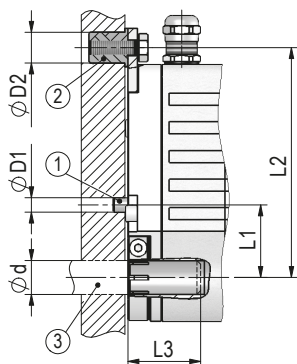
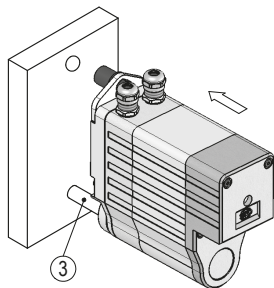
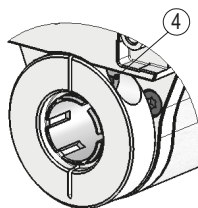
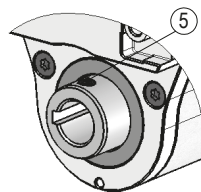

Fig. 1: Mounting dimensions
Fig. 2: Mounting
Fig. 3: Fastening torque for screws
Fig. 4: Shaft with feather key groove
- ▶ Ensure a low shaft and angle offset between shaft and accommodation bore by applying appropriate manufacturing methods (see Fig. 1 + Tab. 2).
#### Preparing mounting (Fig. 1, Fig. 2, Fig. 3):
#### Mounting (Fig. 1, Fig. 2, Fig. 3, Fig. 4):